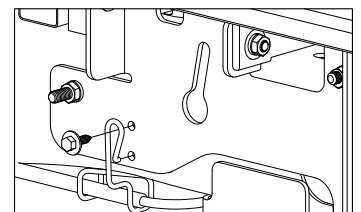

Figure C9: View from outside of Driver Side Frame.
6. **Replace cable bracket.** If the brake cable bracket was removed at the beginning of the side plate installation, replace it onto the drivers side plate using the M8 bolt that was originally in the frame, See Figure C9.